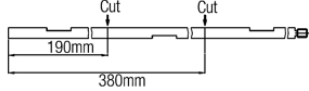

Fig. 1.
1. Cut the door stiffener strip to suit the height of the door as shown in Fig. 1